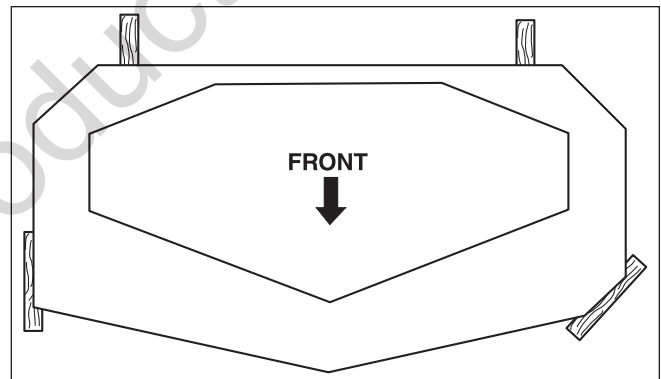

Figure 41. 2 x 4 Locations
6. Block up the mower deck until all hanger chains are slack. See Figure 41.